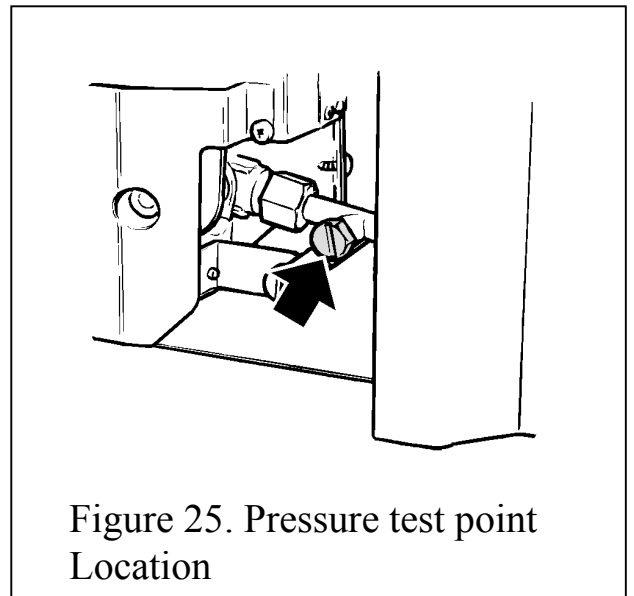

Figure 25. Pressure test point Location
1. Check the burner pressure by fitting a pressure gauge at the test point. The test point is on the pipe situated below the bottom right corner of the burner unit (See figure 25).